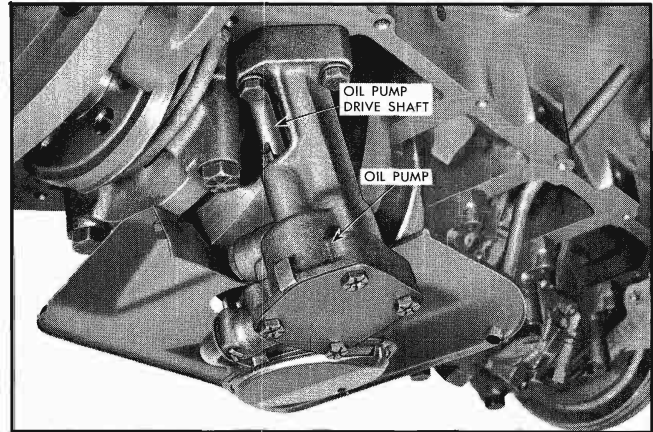

Fig. 6-58 Oil Pump and Oil Pump Drive Shaft
2. Remove oil pump attaching bolts while holding oil pump in place. Carefully lower oil pump away from block with one hand while removing oil pump drive shaft with other hand (Fig. 6-58).
4. Install screen assembly on oil pump and install new cotter pin retainer, bending both ends of cotter pin 90° to avoid contact with oil pan. See Fig. 6-58.